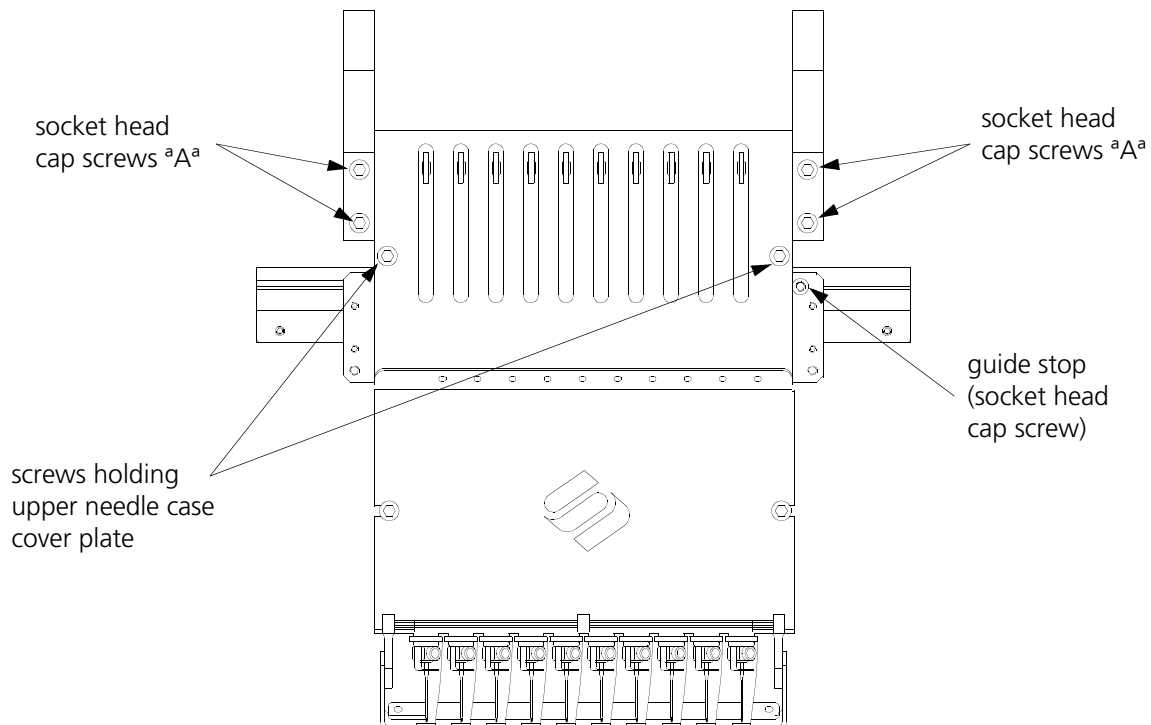

Figure 3-29
6. Refer to Figure 3-29 and align the right edge of the needle case against the guide stop on the bearing retainer plate then tighten the 4 "B" socket head cap screws.
7. Refer to Figure 3-29 and install the 4 "A" socket head cap screws into the tensioner brackets and tighten them.